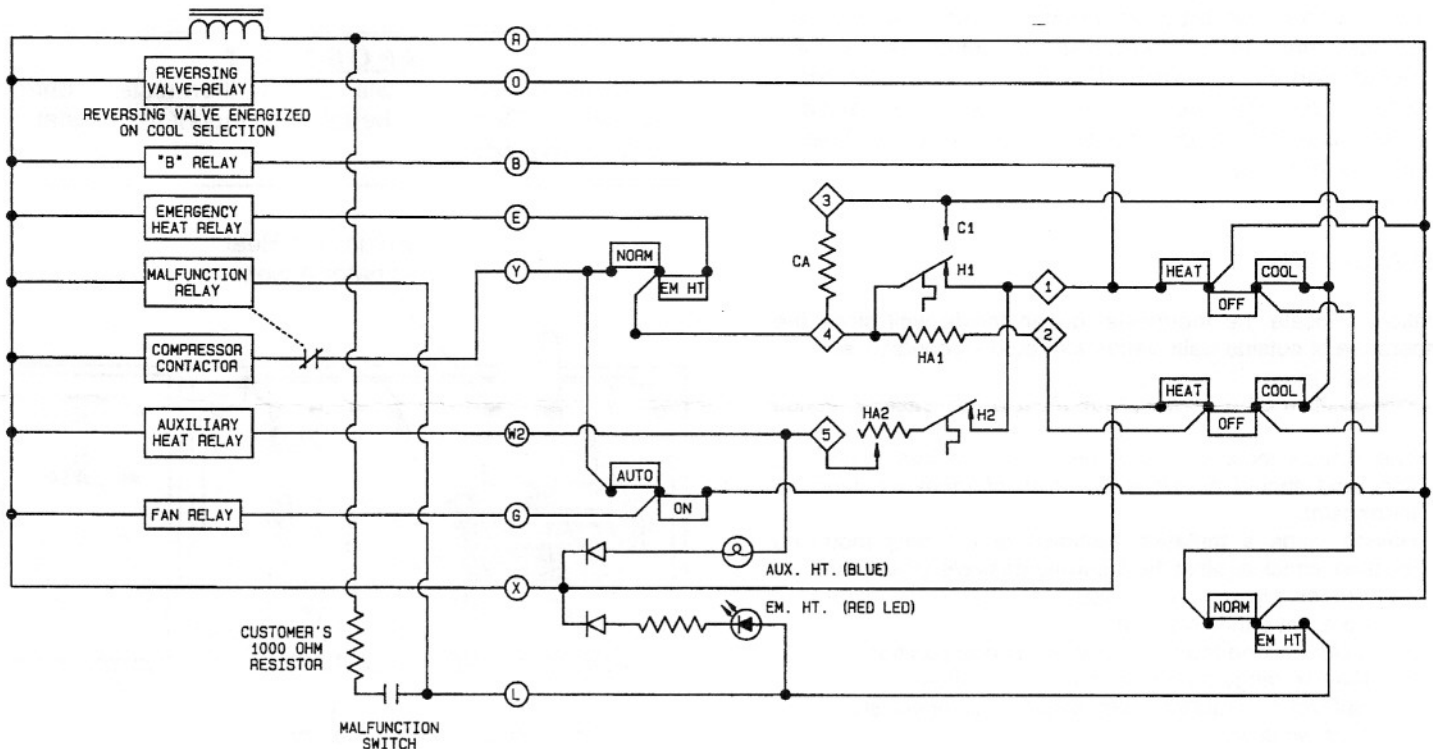

Figure 3 Internal Wiring Schematic
2. Connect leads to terminals of heat pump unit and room thermostat. Refer to Installation Instructions of the heat pump and Figure 3 for wiring instructions.